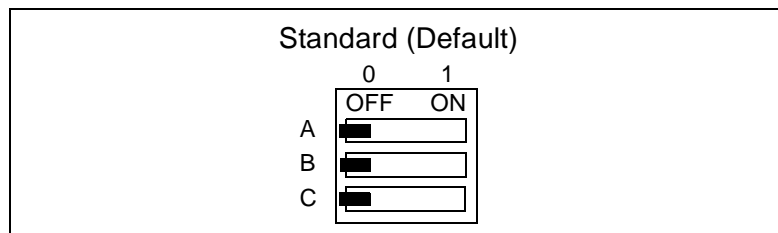

Figure 4-4 Standard switch S1 selection.
- Standard (**Factory Setting**), refer to page 26, Figure 4-4, Table 4-1 and Table 4-2.
- Standard 2, refer to page 27, Figure 4-4, Table 4-3 and Table 4-4.